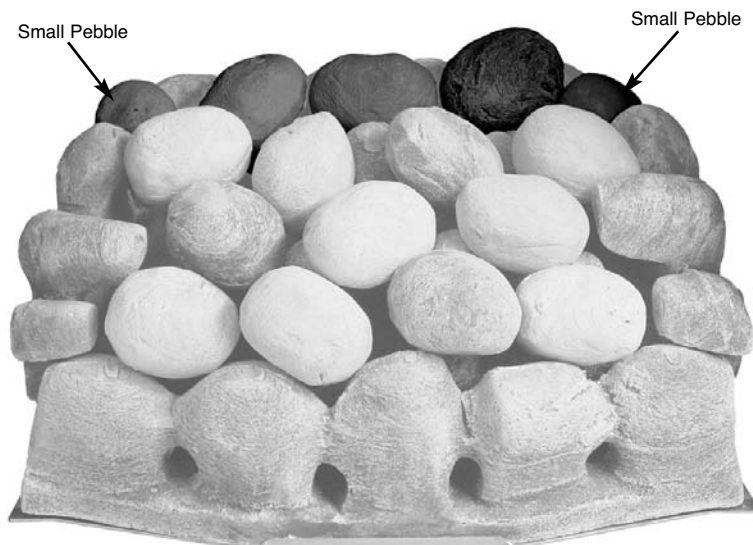

Fig. 35
8. Place the next three pebbles in the middle, on the back edge of the pebbles previously laid ensuring even gaps all round. Finally place the two small pebbles, one in each top corner. Make any adjustments necessary to achieve even gaps as this will help in giving a well balanced flame picture and an even glow (Fig. 35).